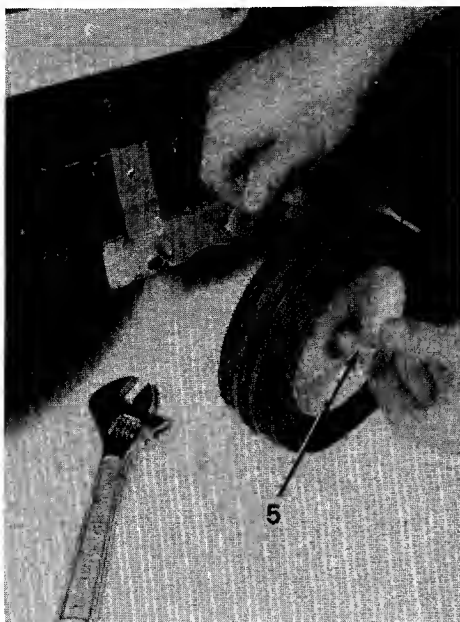

FIGURE 19
5. Deck Wheel Bearings (4). Remove the axle bolt and lubricate with multi-purpose automotive grease once a season or after every 25 hours of operation. See figure 19.